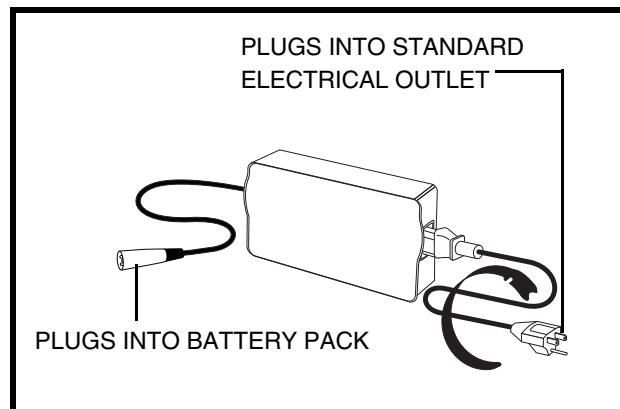

Figure 13. Off-board Battery Charger
4. Plug the charger power cord into the charger power cord receptacle on your Travel Scooter, then into the electrical outlet. See **figure 13**. We recommend that you charge the batteries for 8 to 14 hours.